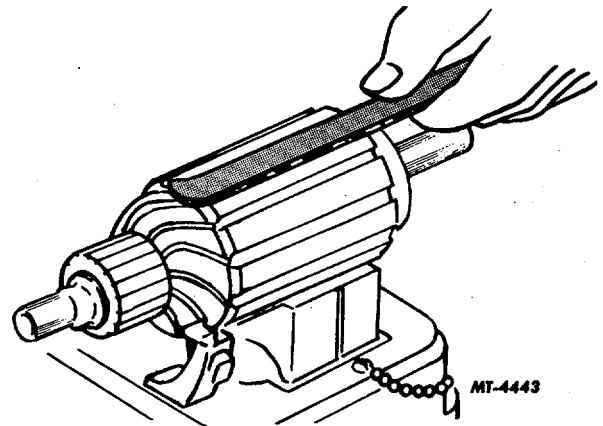

Fig. 8 Testing Armature for Short Circuits
- a. Short circuits are located by turning the armature in a growler while holding a steel strip on the armature. The steel strip will vibrate on the area of the short circuit, Fig. 8.